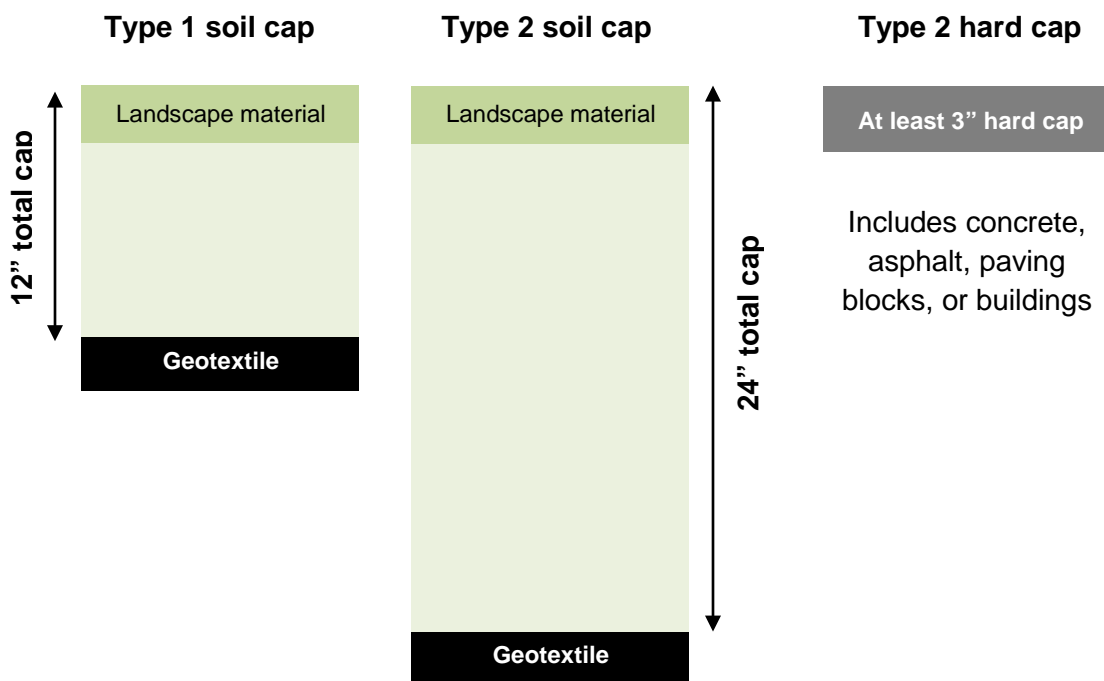

Figure 8. Cap types
A hard cap may be a building, parking lot, pavement, or driveway. A soil cap is a certain depth of clean soil over a geotextile (see box). Part of the soil cap can be landscaping material. Select a cap type (Figure 8) based on the arsenic and lead levels.
5. **Build the cap.** Use enough materials to create the necessary cap depth (Figure 8). Make sure it covers the contaminated area.
A hard cap is a building, parking lot, pavement, or driveway. A soil cap is a certain depth of clean soil over a geotextile. Part of the soil cap can be landscaping material. Figure 8 in Chapter 5 shows both cap types.
- 8. Build the cap.** Use enough materials to create the needed cap depth (Figure 8 in Chapter 5). Make sure it covers the contaminated area. Sample any imported soils (Chapter 9) to make sure the cap material is not contaminated.